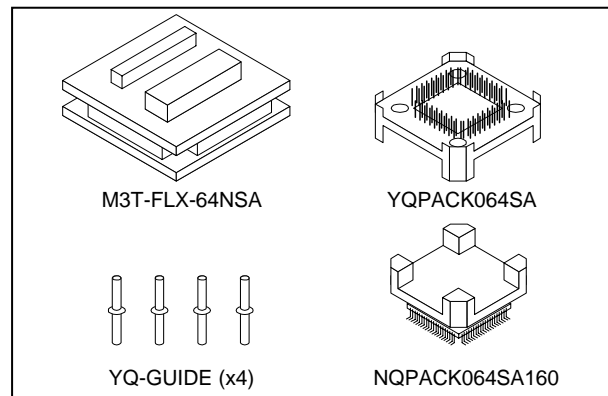

Figure 1 Package components of the M3T-FLX-64NSA
2. Package Components (See Figure 1)